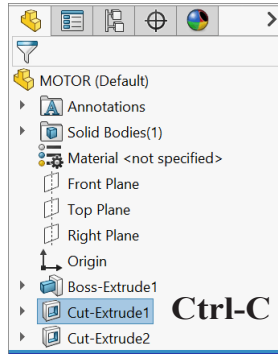

Fig. 16
Step 1. If necessary, copy **Cut-Extrude1** again. To copy, click **Cut-Extrude1** in the Feature Manager and use **Ctrl-C**, Fig. 16.